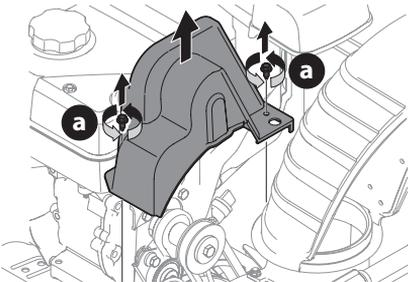

Figure 81
2. Remove plastic belt cover on front of engine by removing two self-tapping screws (a) (Figure 81).